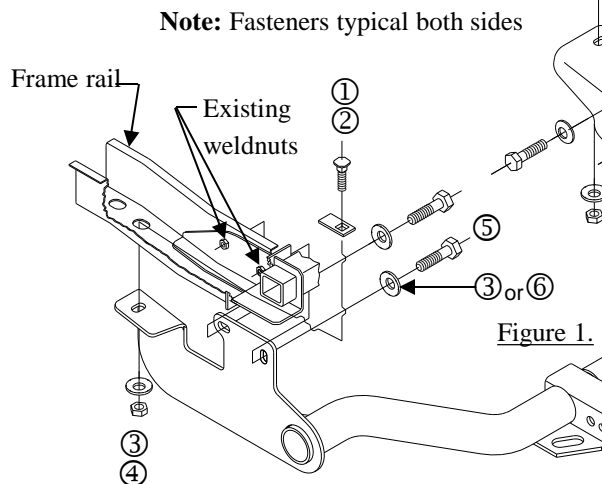
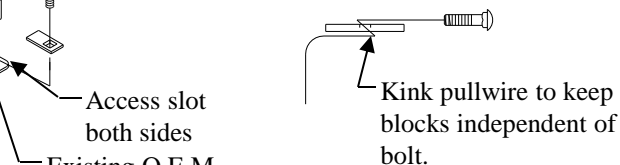

Figure 1.
Figure 2.
Installation for vehicles with O.E.M. Class 2 Integrated Hitch/Bumper. (Figure 1) – Without O.E.M. hitch, see next page (figure 4)
- Using the pullwire feed carriage bolts and blocks thru access slot in end of the frame as shown in Figure 1. Using the kink pullwire to keep block independent of bolt (See Figure 2). Feed the pullwire thru the existing slot and hitch.
①	Qty. (6)	Carriage Bolt 7/16 – 14 X 1.75 GR5	④	Qty. (6)	Hex Nut 7/16 - 14
②	Qty. (6)	Block	⑤	Qty. (4)	Bolt M12 X 1.75 X 45 CL10.9
③	Qty. (6)	Conical Washer
1. Use pullwire to feed 7/16 - 14 carriage bolt and block using the kink pullwire method (Figure 2) into the forward hole, using the access hole on the passengers frame rail. (See Figure 4)